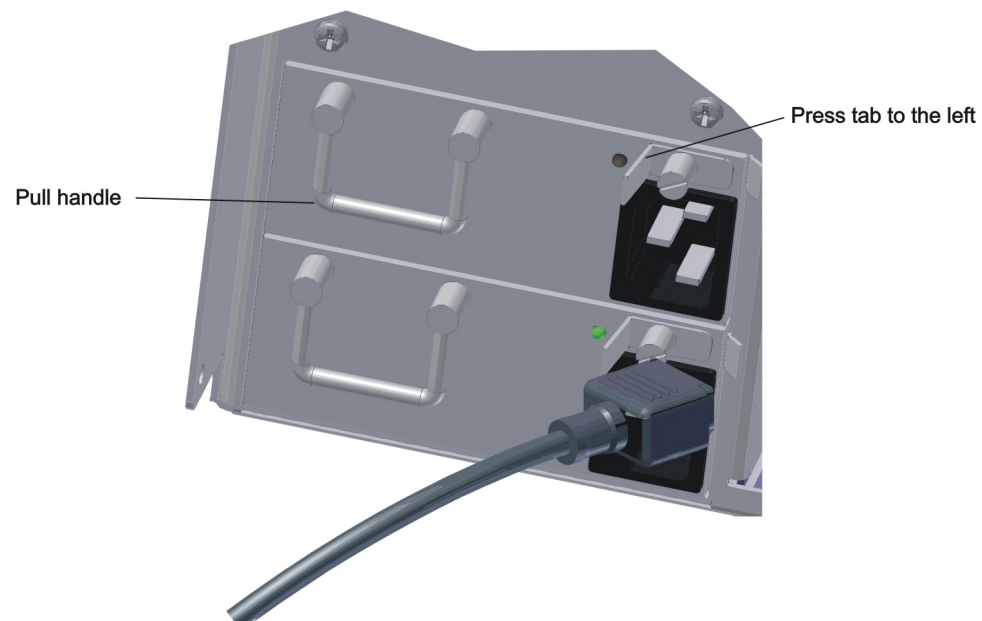
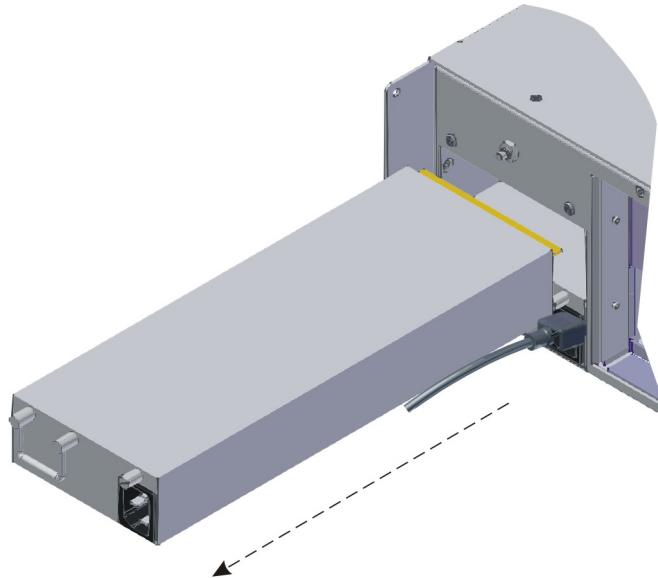

Figure 4-23 Press on Tab and Pull Handle to Remove Failed DSL100 Power Supply
Figure 4-24 Remove Failed DSL100 Power Supply
3. Press the failed power supply's tab to the left while grasping its handle (see Figure 4-23) and pulling the unit out of its slot (see Figure 4-24).